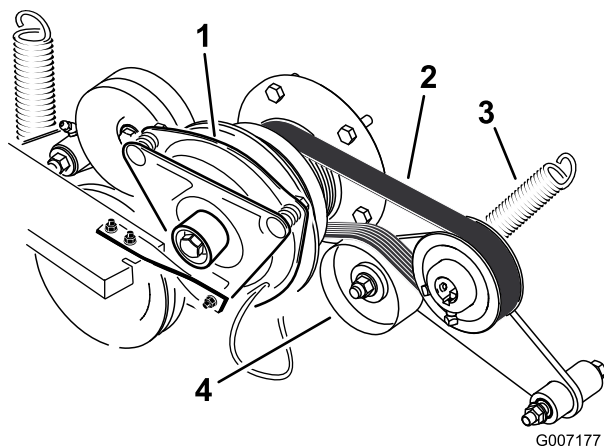

Figure 70
3. Remove the spring from the idler arm (Figure 70).
4. Install the new belt around the engine and hydro pump pulley (Figure 70).
6. Install the spring to the idler arm (Figure 70).